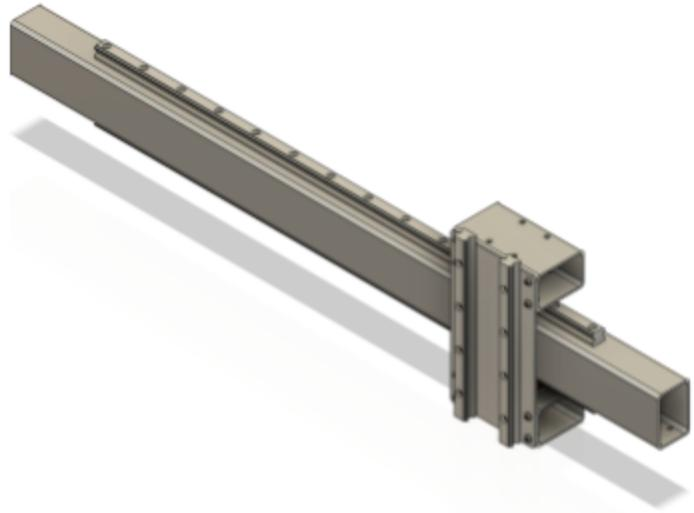

Figure 12.1
3. Slide the assembled Z-Axis onto the X-Axis gantry HGR20 rail as shown in Figure 12.1.